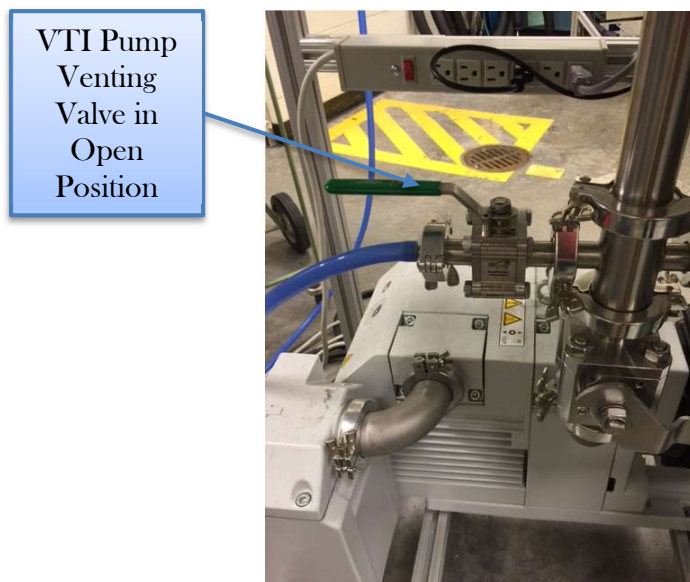

Figure 6
- 1.7 Open VTI pump venting valve to vent the line with 1-2 psi of helium gas (Figure 6).